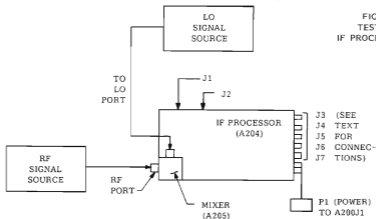

FIGURE 5-3
e. Apply a 0 dBm signal in the 1 - 18 GHz range to the Mixer RF input port (see Figure 5-3). Monitor DC output with oscilloscope at IF converter port (connector that plugs into IF Processor). A DC voltage between 50 and 250 mV should be indicated.
- Connect IF Processor to two signal generators as shown in Figure 5-3. Terminate A204J3 in 50 ohms.
- Set LO signal source for 1 GHz \pm 1 MHz at -16 dBm, and apply to LO Mixer port (see Figure 5-3).